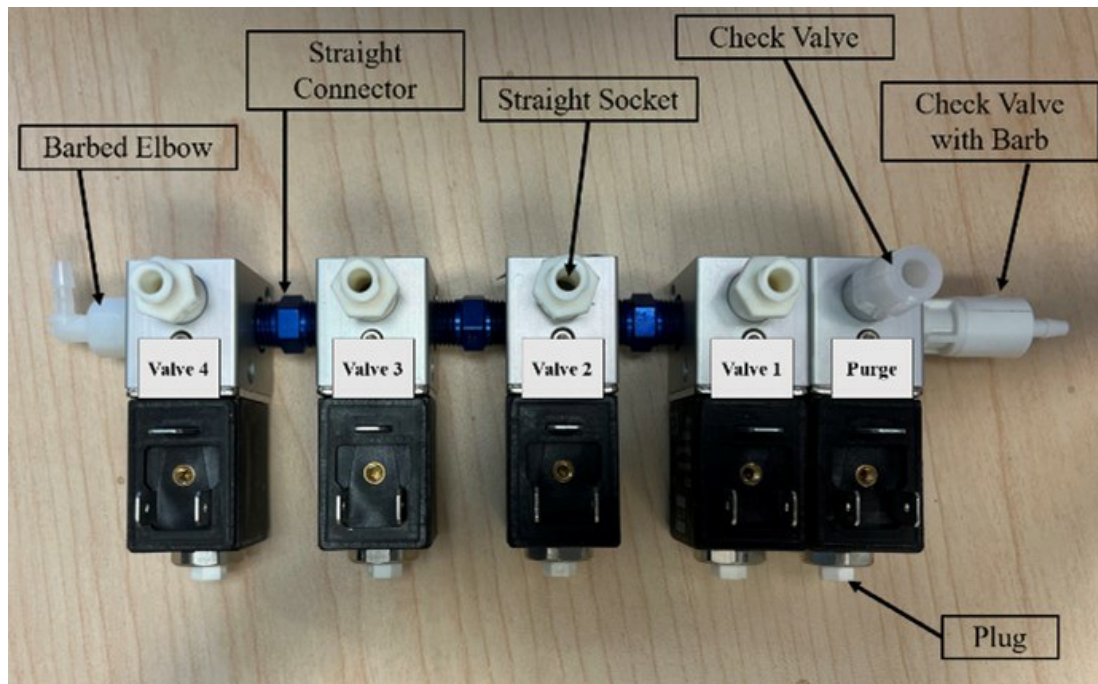

Figure 3. Solenoid valve plumbing assembly diagram.
**5.5** Repeat with the other two straight connectors (Figure 3).
## 6 Connect the Nylon Check Valve to the top of purge valve (Figure 3).
## 7 Connect the Luer-Lock straight sockets to the top of valves 1-4 (Figure 3).
- 7.2 Carefully thread the Luer-lock socket into the top hole of Valve 1 (Figure 3), making sure it is threaded in straight.
## **8 Connect the check valve with hose barb to the side of the purge solenoid valve (Figure 3).**
## **9 Connect the barbed elbow to the side of solenoid valve 4 (Figure 3).**